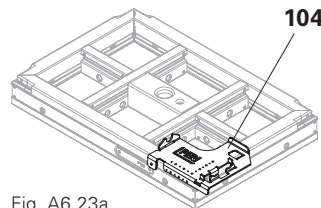

Fig. A6.23a
1. Position Tie Adjustment Plate MX (**104**) and fix in place with magnets or nails. (Fig. A6.23a)